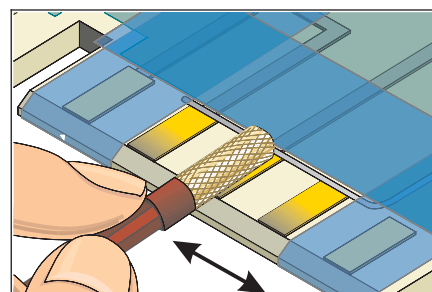

Figure 8 Brush the surface with the saturated plating probe.
6. Swab the entire surface to be plated by brushing the surface with the saturated plating probe. The plating probe should be moved back and forth briskly to prevent burning and to provide even coverage. (See Figure 8.) Swab the area for the time recommended by the equipment manufacturer.